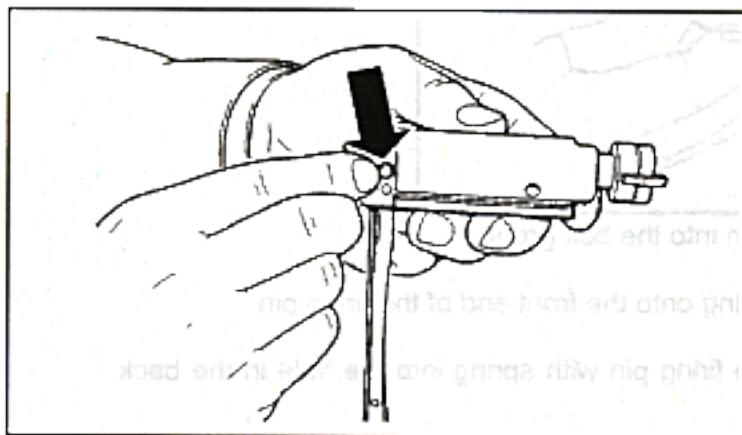

Figure 34. Installing the firing pin retaining pin
- E. **Install firing pin retaining pin** – Press in on the back of the firing pin with your finger against spring tension and install the firing pin retaining pin into the bolt carrier from right to left to secure the firing pin in place (Figure 34).